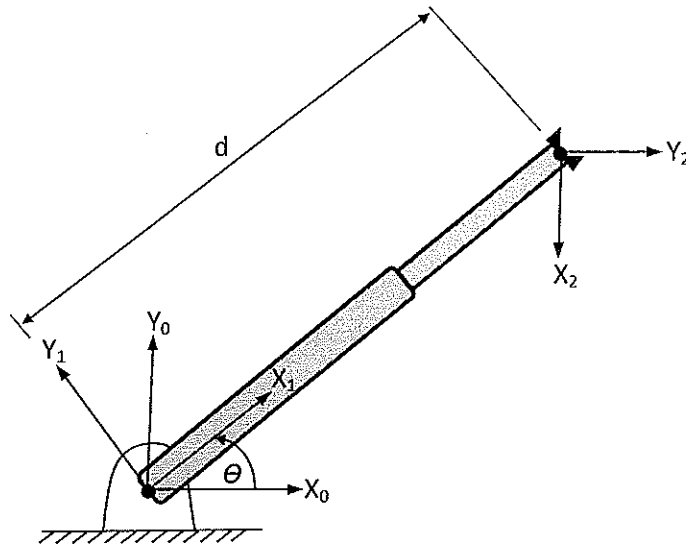

Figure 01
A RP two link planar manipulator is shown in figure 01. The axes Z_0 , Z_1 and Z_2 are pointing perpendicularly outwards of the paper.
- Determine the link parameters using D-H convention for the RP planar manipulator given in figure 01. (Assume any missing parameters).
- Find the homogeneous transformation matrix 0T_2 for the RP planar manipulator given in figure 01 using the D-H convention. The general form of the homogeneous transformation matrix in standard notation is;